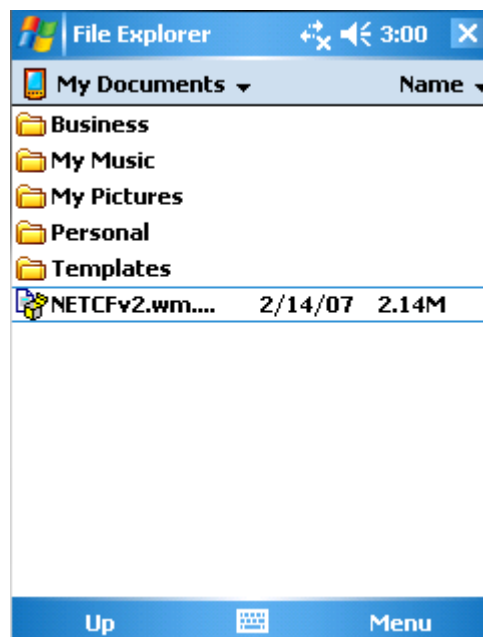

Figure 1
1. Copy the cab file "NETCFv2.wce5.armv4i.cab" in Windows CE Device or Copy the "NETCFv2.wm.armv4i.cab" in Windows Mobile Device, as figure 1.